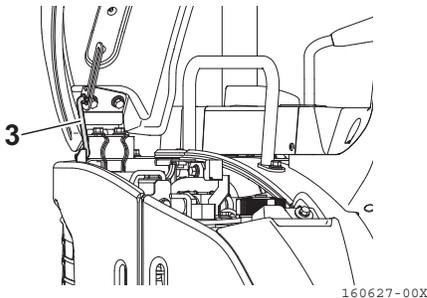

Fig. 2-67
3. The front cover (right) fully opens to be locked with the stopper (**Fig. 2-67, 3**).
1. Lift the front cover (right) slightly and pull the stopper (**Fig. 2-67, 3**) to disengage it.